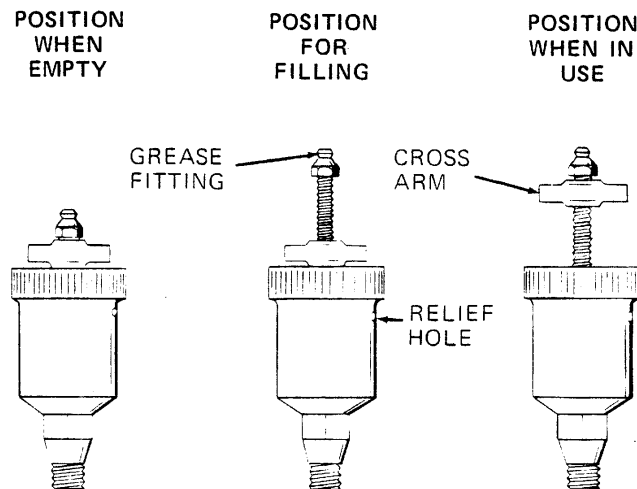

Figure 5. Automatic Lubricating Grease Cup
Before removing the seal assembly, turn the cross arm on the seal grease cup (59) clockwise until it rests against the cover (see figure 5). This will prevent the grease in the cup from escaping after the seal is removed.
Before starting the pump, fill the grease cup through the grease fitting with a good grade of No. 2 pressure gun grease until grease escapes from the relief hole. Turn the grease cup arm counterclockwise until it is at the top of the stem; this will release the spring to apply grease to the seal (see figure 5).